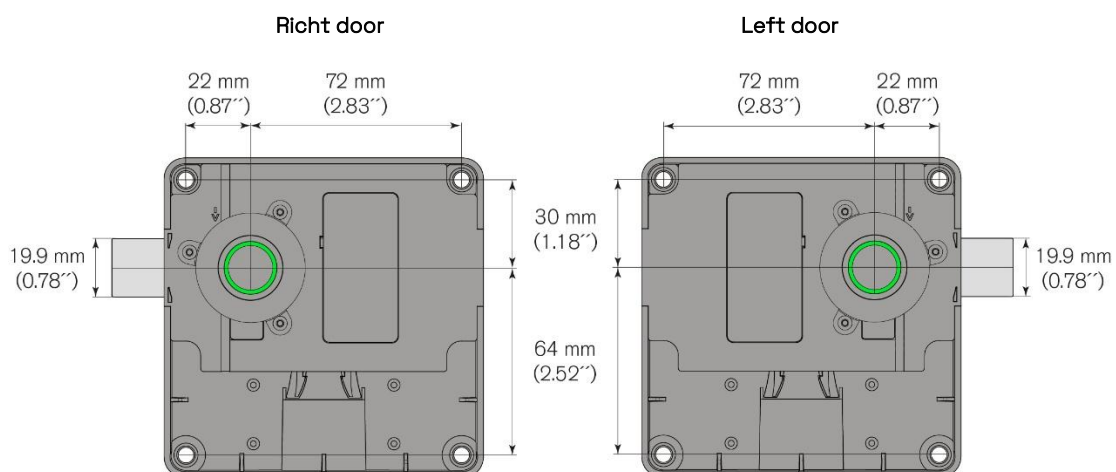
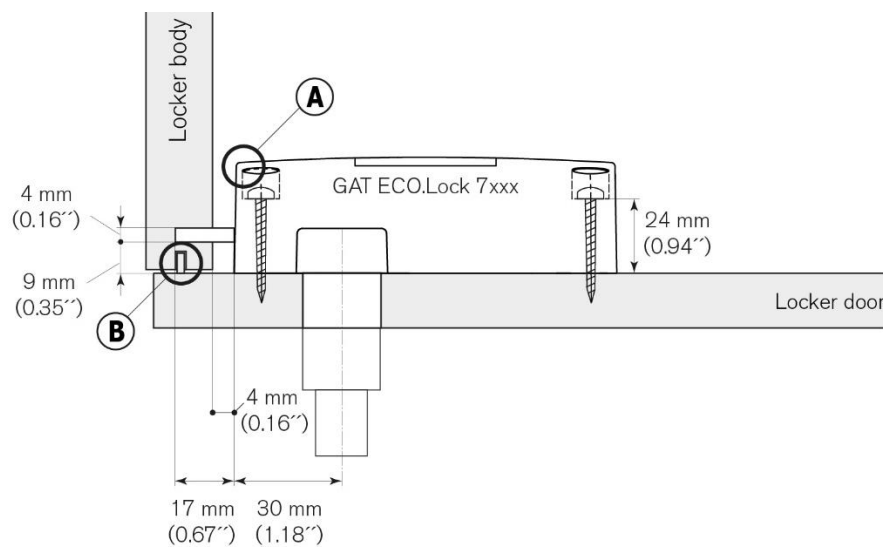
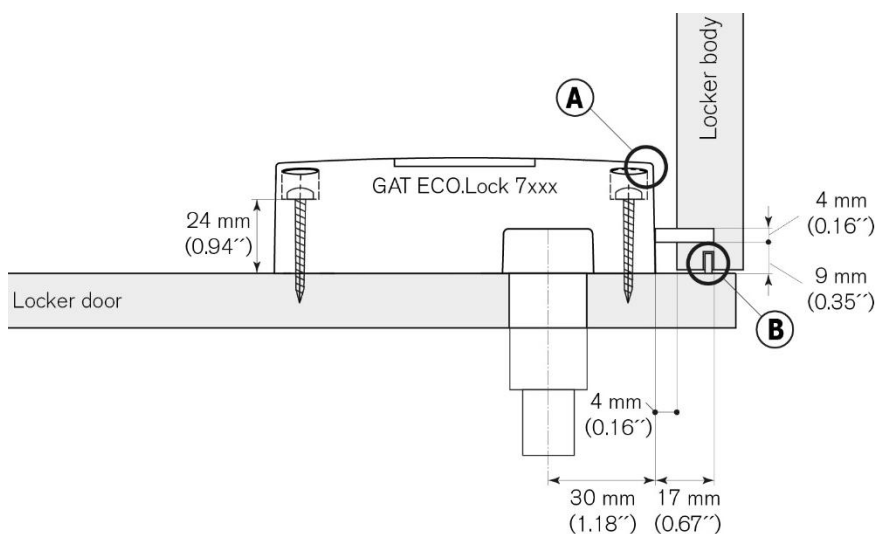
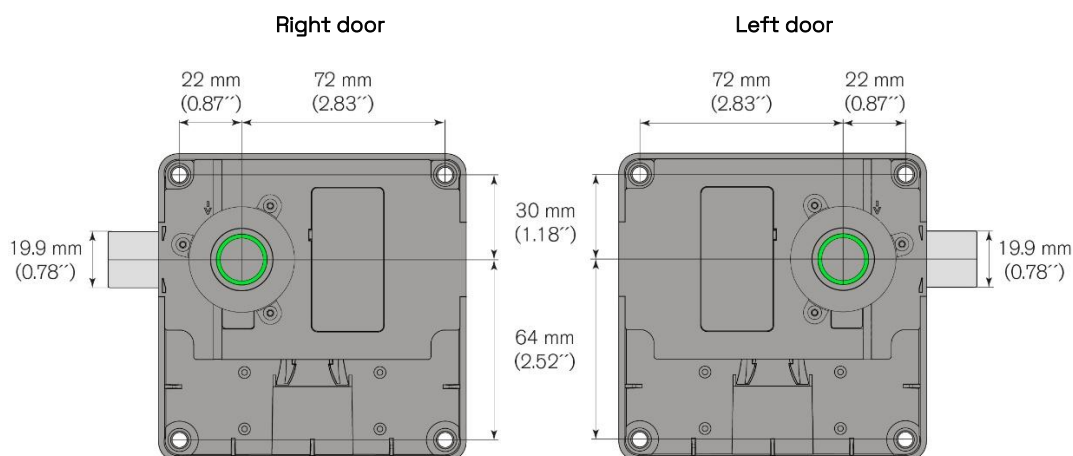

Figure 3.5 – Position of the button drill hole for non-metallic doors
Figure 3.6 – Installation measurements for right-hinged doors
Figure 3.7 – Installation measurements for left-hinged doors
Figure 3.9 – Position of the button drill hole for metallic doors
- ▶ Drill 1 hole into the locker door for the lock button. Position the button hole according to the measurements in Figure 3.5 and Figure 3.6 (for right-hinged doors) or Figure 3.7 (for left-hinged doors).
- ▶ Mark out 4 mounting holes on the inside of the locker door for the lock housing. Position the holes according to the measurements in Figure 3.5 and Figure 3.6 (for right-hinged doors) or Figure 3.7 (for left-hinged doors).
When the GAT ECO.Lock is mounted on a single-wall metallic door, it is recommended to install the lock a corresponding distance away from the locker door, e.g. using a mounting bracket, as shown below in Figure 3.9. This installation method allows the lock to be mounted on the inside of the locker wall without the need to drill through the outside of the locker door.
- ▶ Mark out and drill 1 hole into the locker door for the lock button. Position the button hole according to the measurements in figure 3.9 and figure 3.6 (for right-hinged doors) or figure 3.7 (for left-hinged doors).
- ▶ Mark out 4 mounting holes on the inside of the locker door for the lock housing. Position the holes according to the measurements in figure 3.9 and figure 3.6 (for right-hinged doors) or figure 3.7 (for left-hinged doors).